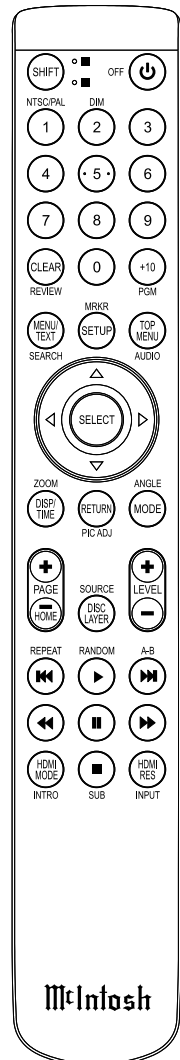

Figure 21
3. The Text Display Mode may be canceled by pressing the DISP/TIME Push-button on the Remote Control. Refer to figure 21.
4. The various Time Modes may be displayed by pressing the DISP/TIME Push-button on the Remote Control. Refer to figure 21. For additional information on the Time Display Modes refer to "Display Modes" on page 20.
Using the Remote Control, press the ▶▶ (Fast Forward) or ◀◀ (Reverse) Push-button to search back and forth rapidly through a Track on a disc. To return to normal playback release the same ▶▶ (Fast Forward) or ◀◀ (Reverse) Push-button. Refer to figure 21.